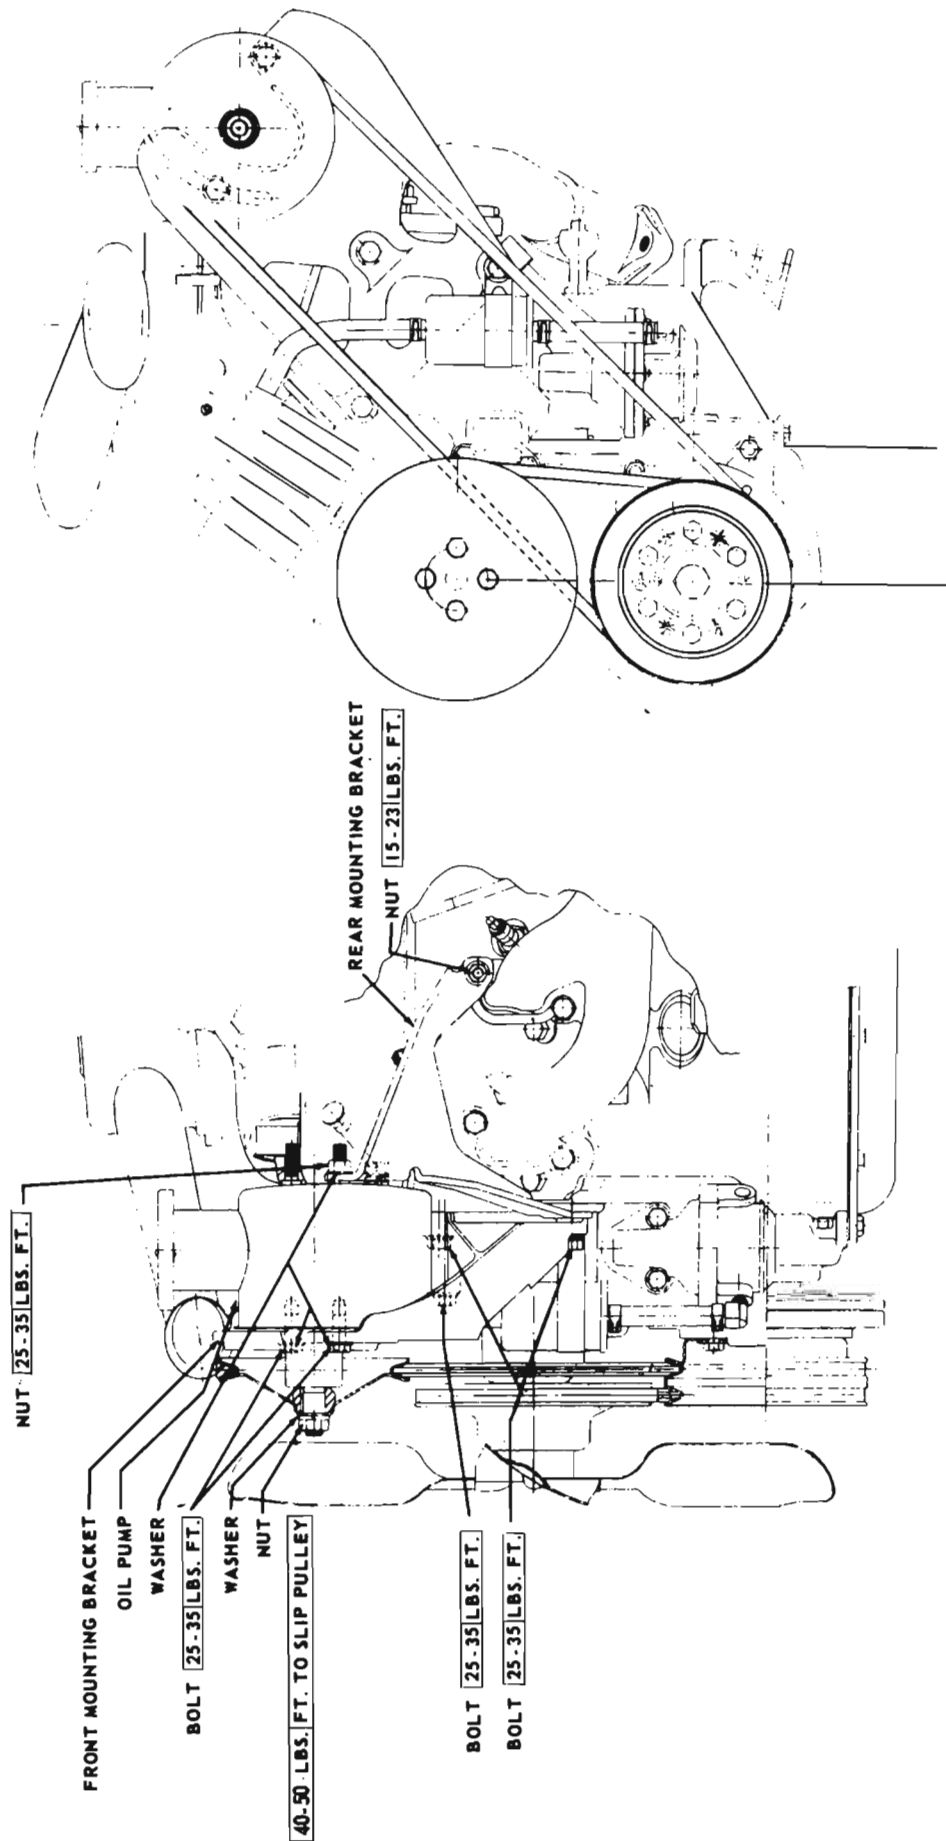

Figure 8-32—Power Steering Oil Pump Installation
1. Remove pump pulley nut. See Figure 8-32. Disconnect belt from pulley and remove pulley